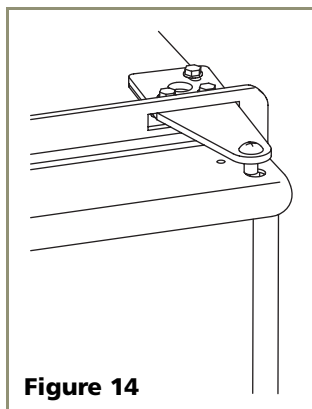

Figure 14
1. Loosen (do not remove) top and bottom hinge screws. See **Figure 14**.